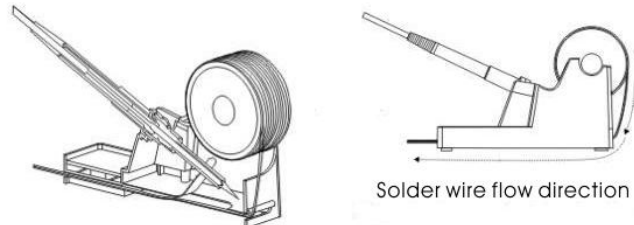

Figure 1. Soldering Iron stand with solder wire holder
1. Install solder wire to the solder iron holder. (Figure 1)
3. Place soldering iron to the soldering iron stand as shown in Figure 1.